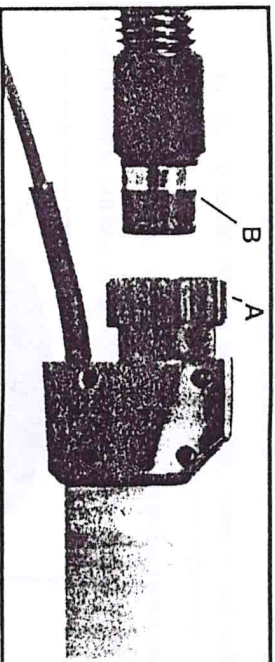

Fig. 2
2. Connect the vacuum hose to the Drywall Sander: Open the Drywall Sander's hose connector by turning the large nut (A) Fig. 2, counter-clockwise a couple of turns. Push the vacuum hose swivel connector (B) Fig. 2, into the Drywall Sander connector and seat firmly. Turn the large nut clockwise to tighten connector.